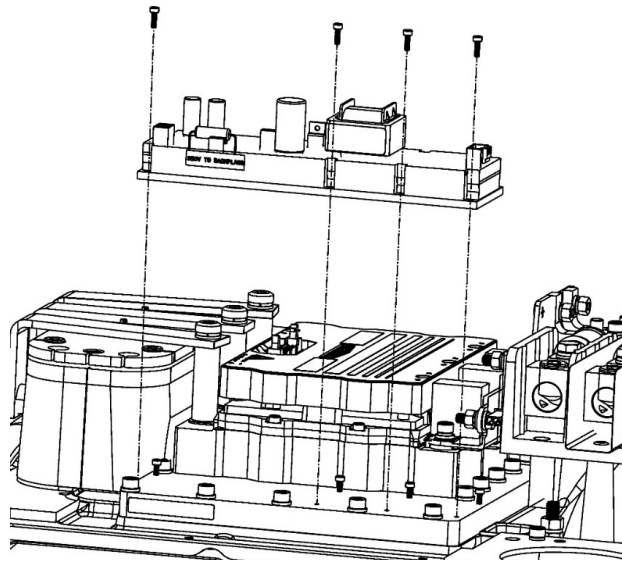

Figure 6 – Potted DC-DC Converter Removal
2. Loosen the fasteners that are located next to the Inverter. Refer to Figure 6 (Potted DC-DC Converter Removal) for this and the next two (2) steps.